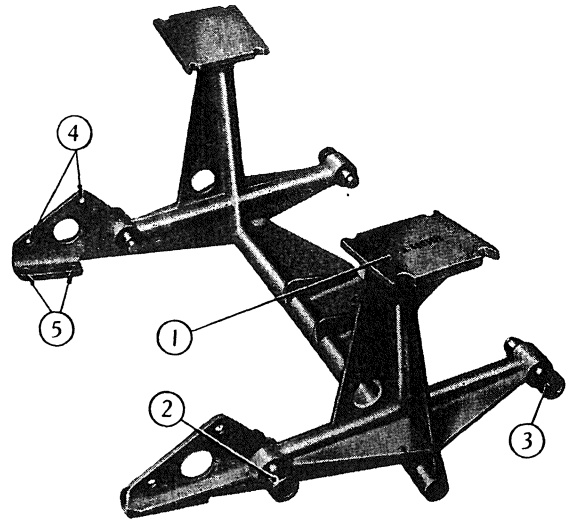

Fig. 507 - Checking floor front end by fixture A. 66036/2 Multipla.
This fixture must be used with tool fixture A. 66036, of which it replaces the front portion (fig. 507).
To check the « Multipla » floor alignment, use the rear and central portions of fixture A. 66036 (intended for « Sedan ») and replace its front portion with fixture A. 66036/2 (fig. 507).
- suspension upper support (1, fig. 507) attachment studs and holes;
- suspension lower supports (2, 3, fig. 507) mounting holes;
- steering control operating rod support (4, fig. 507) mounting holes;
- stabilizer bar (5, fig. 507) mounting holes.